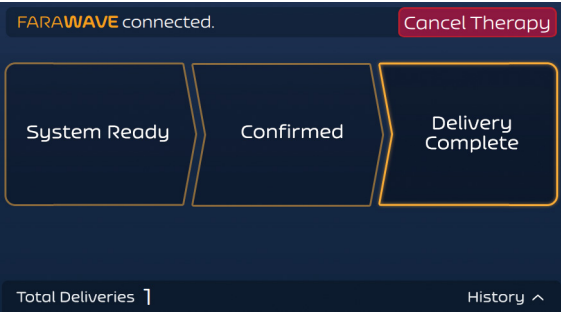

Figure 12. Therapy Screen — Asynchronous Mode — Delivery Complete State
7. When a successful delivery is complete, the FARASTAR PFA Generator will increment the Total Deliveries counter and also record the event in the History Screen. See Figure 12.